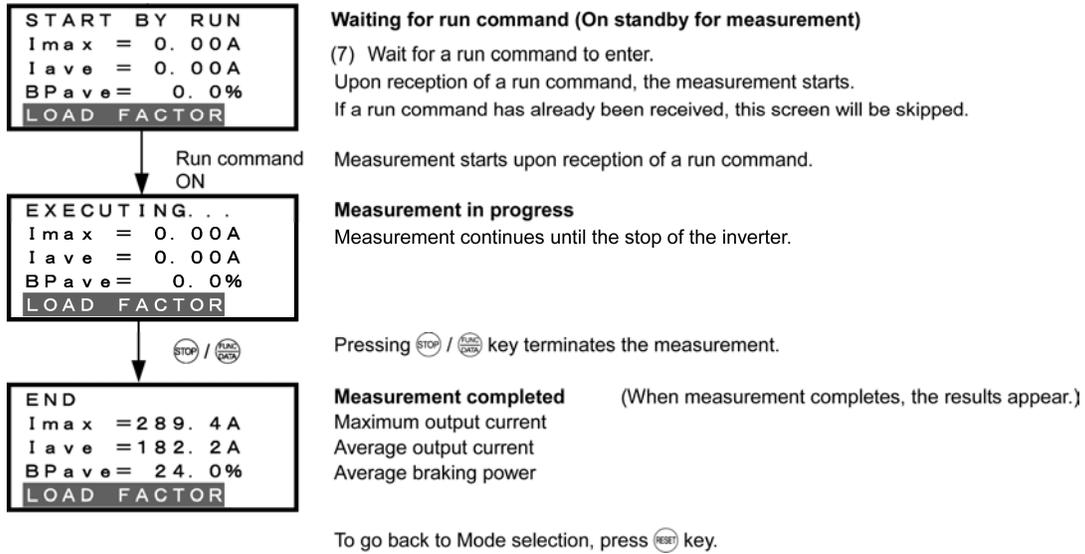

Figure 7.32 Screen Transition for "Load Factor Measurement" (Start-to-stop measurement mode)
- (1) Turn the inverter ON. It automatically enters Running mode. In that mode, press the (PRG) key to switch to Programming mode and display the menu screen.
- (2) Move the pointer → to "9. LOAD FCTR" with the (▲) and (▼) keys.
- (3) Press the (FUNC DATA) key to establish the selected menu and proceed to the measurement mode selection screen.
- (4) Select START→STOP (Start-to-stop measurement mode) with the (▲) and (▼) keys.
- (5) Press the (FUNC DATA) key to establish the selected measurement mode.
- (6) On the confirmation screen, press the (FUNC DATA) key to switch to standby for measurement.
- (7) Wait for a run command to enter. For details, refer to the screen transition in Figure 7.32. Upon receipt of a run command, measurement starts.
- (8) Press the (RESET) key to go back to the mode selection screen.
- (9) Press the (RESET) key again to go back to the menu screen.
Figure 7.32 shows an example of the LCD screen transition starting from Menu #9 "Load Factor Measurement."